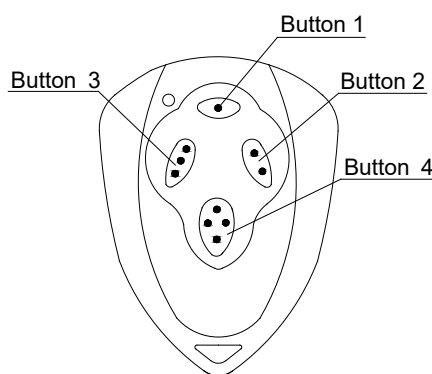

Fig.12
- **Adding extra remote controls (learn):** Press the button 'LEARN' about 1 second(See Fig.12 terminal 9) on the control board, release the button till the 'LED2' turns on, then press the same remote control button which you want to use twice, the 'LED2' will flash several times and then turn off, The learning process is finished.
- The remote control works in a single channel mode. It has four buttons. See Fig.12 Button 1, button 2 and button 3 are used to open or close the gate. With each press of the remote control button which has been programmed, the gate will close, stop, open or stop cycle.